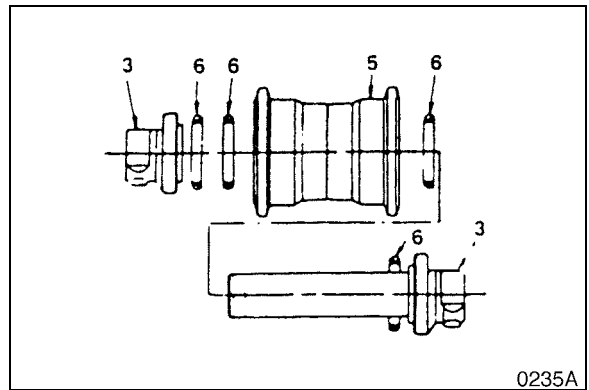

Figure 31
4. Detach O-rings (2, Figure 31) from the axle.
5. Separate group seals (6, Figure 31) from the collar and roller (5).
6. Detach collar (3, Figure 31) and O-rings (2) from the axle, using a press.